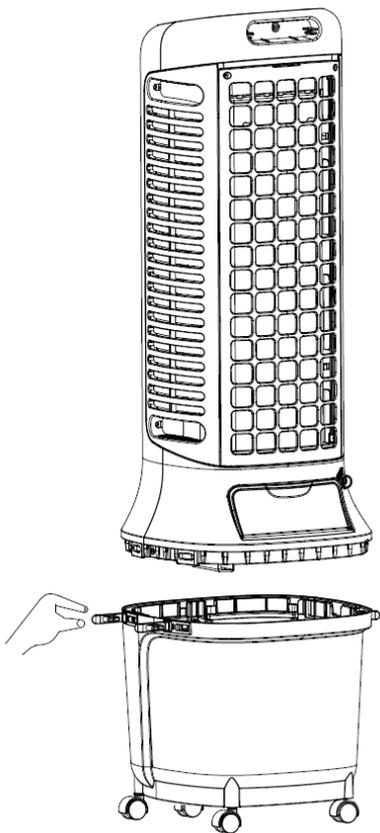
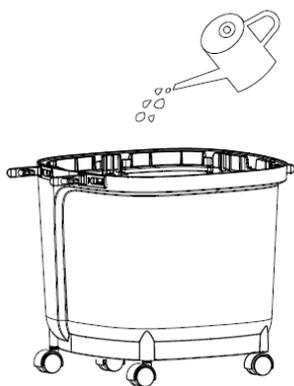

Figure 3
Figure 4
②Before adding water, open the 4 water tank buckles to separate the body from the water tank, and slowly pour water into the water tank (Figure 3 and Figure 4): After adding water, install the body and water tank, and fix the buckle.